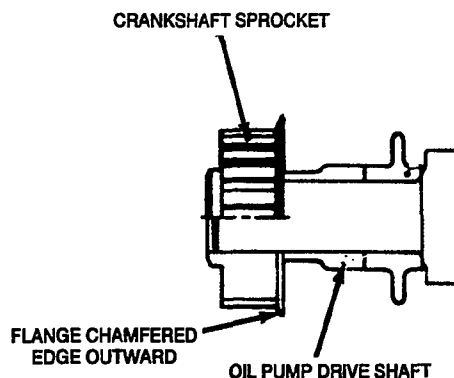

FIGURE 9-5. INSTALLING CRANKSHAFT SPROCKET
2. Install the crankshaft flange and sprocket. The chamfered edge of the flange must face outward from the engine (Figure 9-5). Tighten bolt to the specified torque.